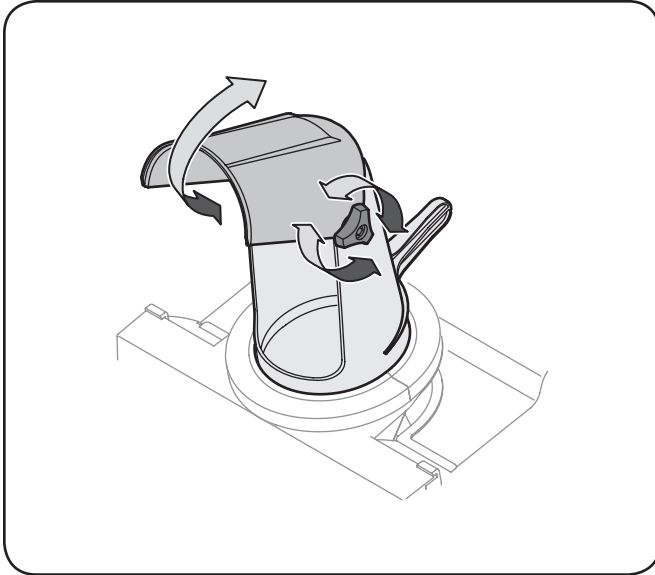

Figure 5-3
1. Loosen the wing knob found on the left side of the chute assembly and pivot the upper chute upward or downward to the desired pitch. Retighten the wing knob before operating the snow thrower. See Fig. 5-3.